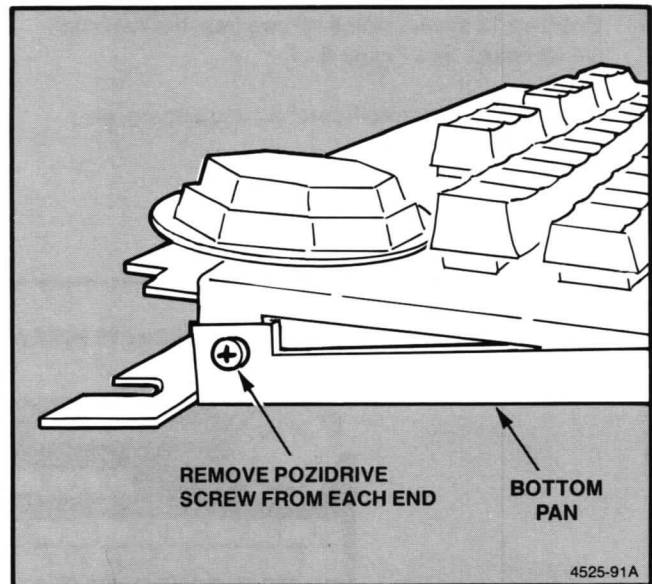

Figure 6-15. Removing the Keyboard Bottom Panel.
5. Unscrew the two screws that attach the bottom panel to the circuit-board/keypad assembly. These two screws act as a hinge. See Figure 6-15.